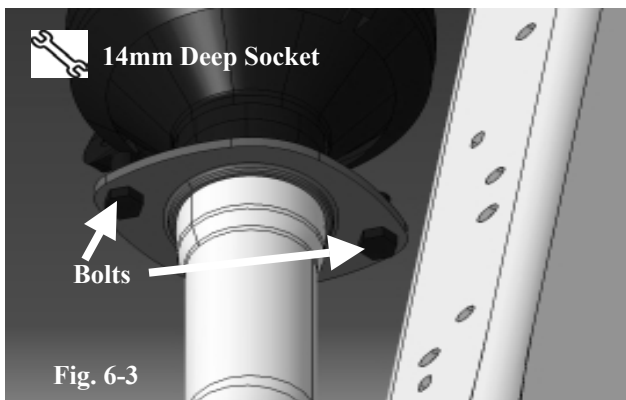

Fig. 6-3
- (d) Align the TRD center muffler assembly front pipes with the catalytic converters' rear pipes. Then reinstall the OE bolts on both flanges evenly, ensuring proper flange alignment. (Fig. 6-3)
- (e) Tighten the OE bolts to  $35 \pm 5$  lbs-ft ( $48 \pm 6$  N-m) of torque. (14mm deep socket) (Fig. 6-3)